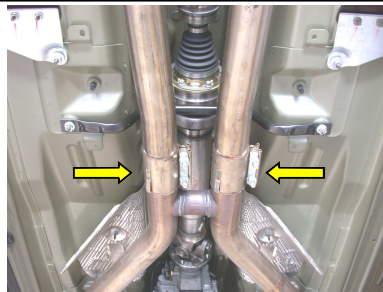

Figure 1
1. Loosen the clamps shown in figure 1 located just behind the h-pipe.